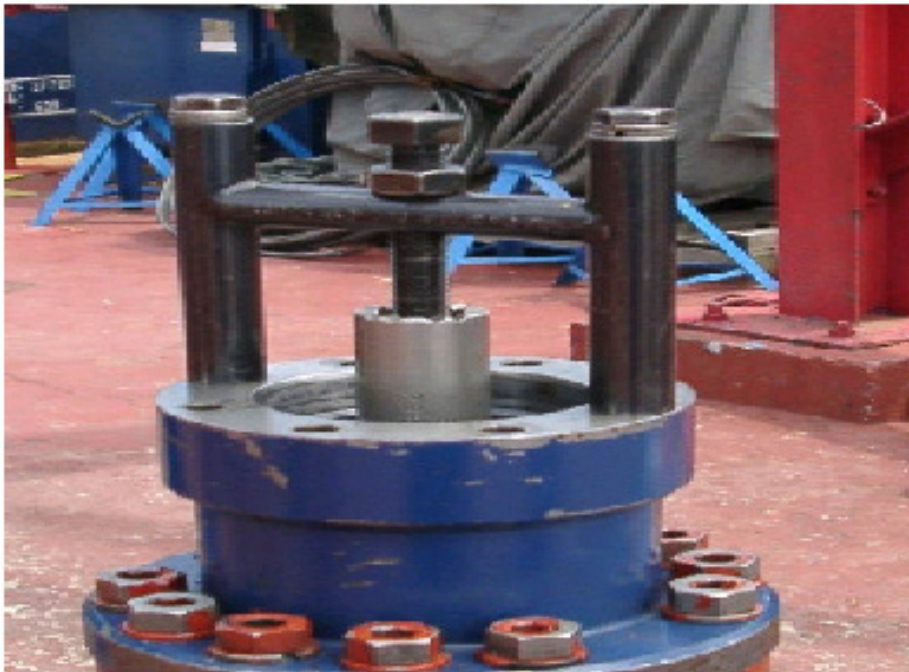

Figure 4-41: Shimming tool positioned on top of the intake adaptor
6. Attach the proper thrust setting tool to the head of the intake with the coupling installed as shown in Figure 4-41. Loosen the jam nut on the center bolt and turn the bolt down until it touches the divider in the coupling. Tighten the bolt to 60 lbf-in (5 lbf-ft). **Do not overtighten!** Tighten the jam nut while holding a backup on the center bolt. Remove the thrust setting tool.
6. Attach the proper thrust setting tool to the head of the intake/protector with the coupling installed as shown in Figure 4-41. Loosen the jam nut on the center bolt and turn the bolt down until it touches the divider in the coupling. Tighten the bolt to 60 lbf-in (5 lbf-ft). **Do not overtighten!** Tighten the jam nut while holding a backup on the center bolt. Remove the thrust setting tool.